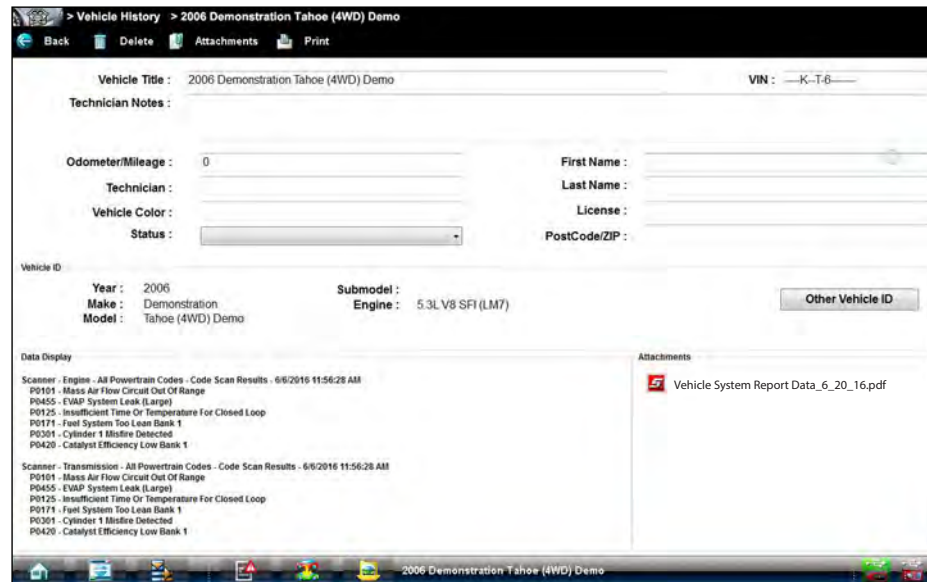

Figure 4-22
3. Select and open the Vehicle System Report PDF file from the attachments box (Figure 4-22).